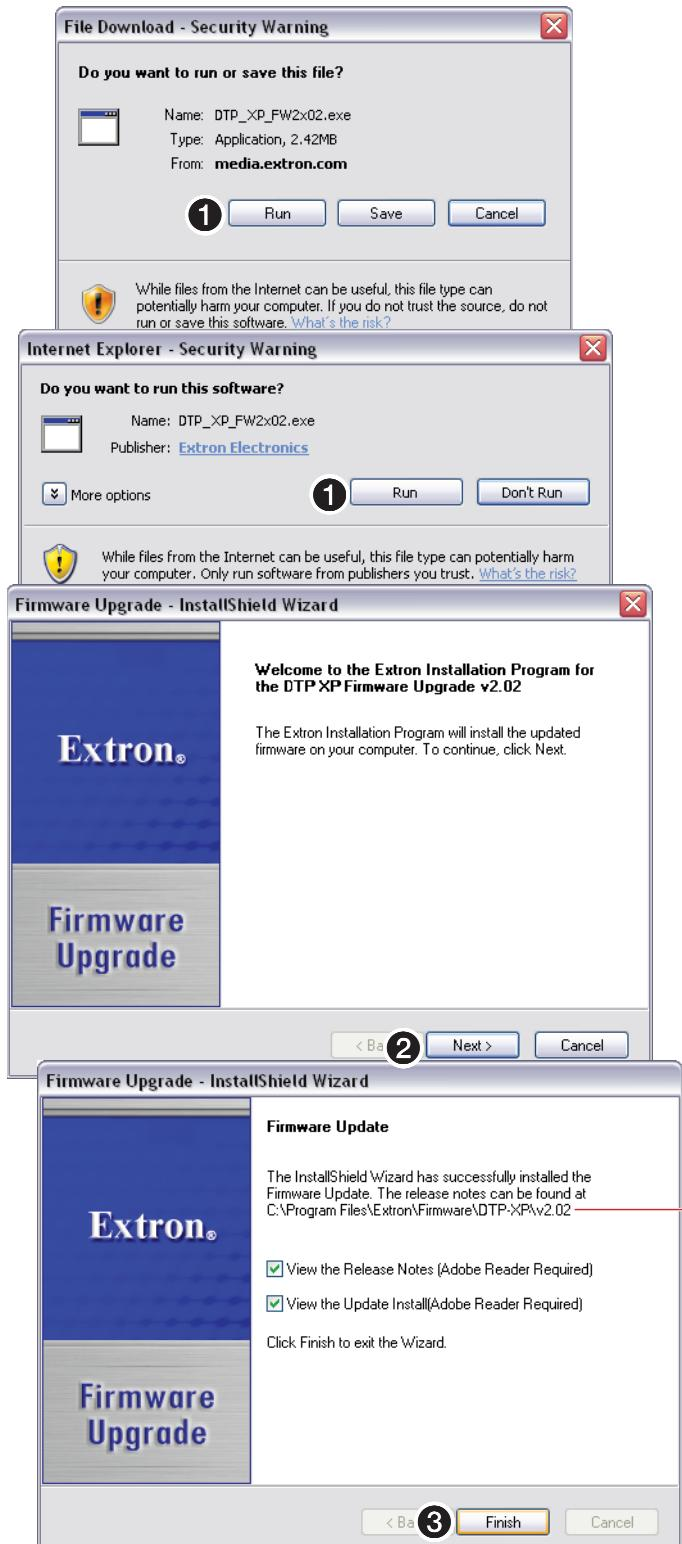

Figure 38. Extracting Firmware Upgrade Files
2. Click **Run** in the File Download and Security Warning dialog boxes (see figure 38, ① on the next page). The PC downloads the firmware update from the Extron website and starts the Extron Installation Program to extract the firmware file.
3. Click **Next** (②). The program extracts the firmware files and places them in a folder identified in the InstallShield Wizard window.